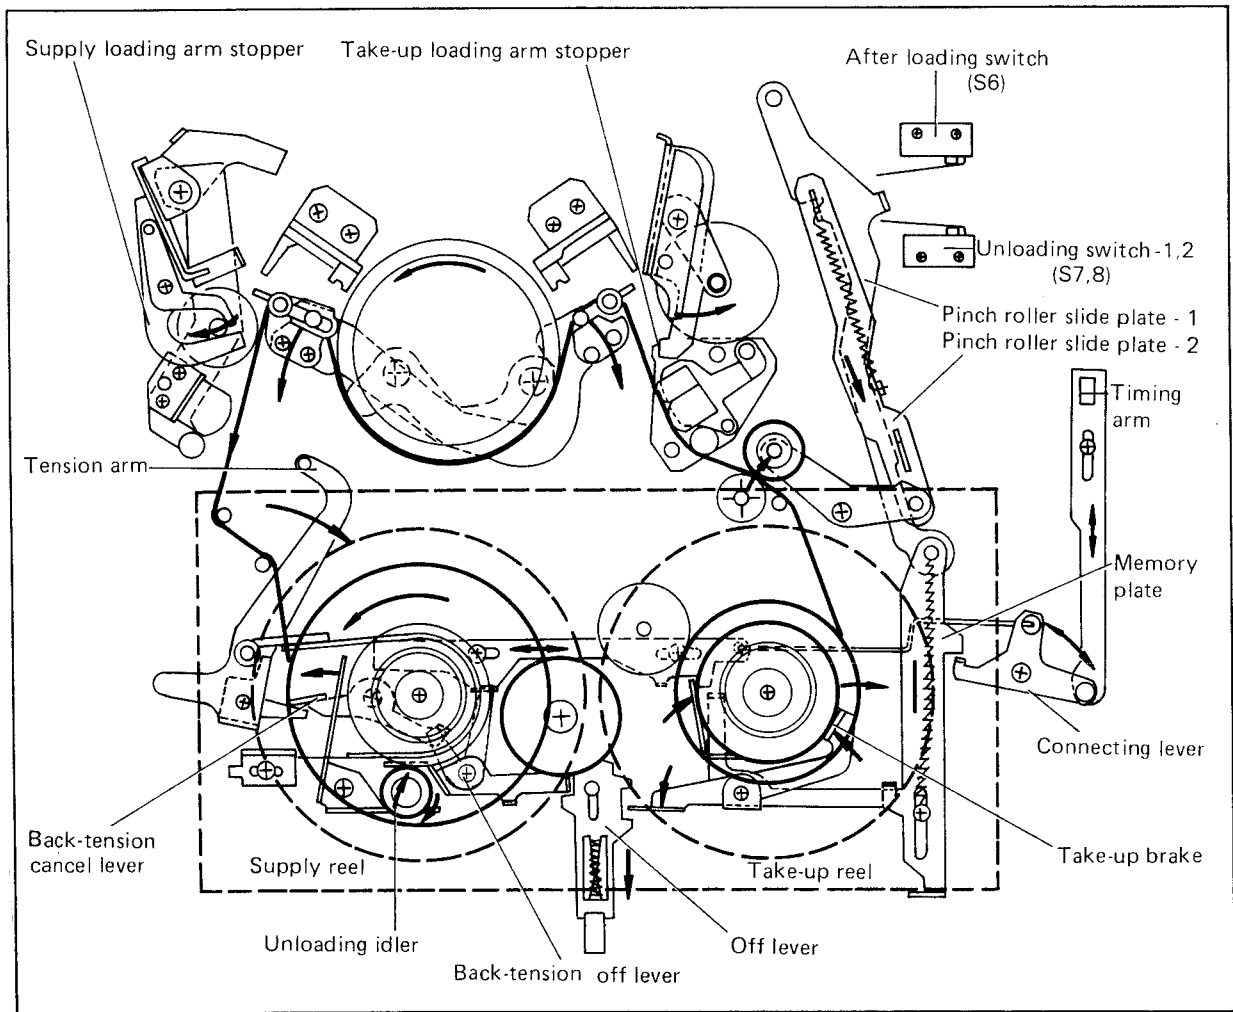

Fig. 2-15 Unloading mechanism (Top view)
When the roller (A) reached to the notch (E) of the timing gear, the change gear is released from the drive gear by the counterclockwise rotation of the gear arm. At this time, the rotation of the timing gear is stopped. Refer to Fig. 2-15, Unloading mechanism (Top view).